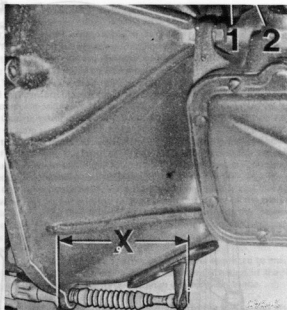

Fig. 5.2. Clutch adjustment points. (Sec. 2)
- 2 Refer to Fig. 5.2 for the measurement position.
- 3 Remove the pivot bolt locknut and screw the pivot bolt into the clutch housing (Fig. 5.2).